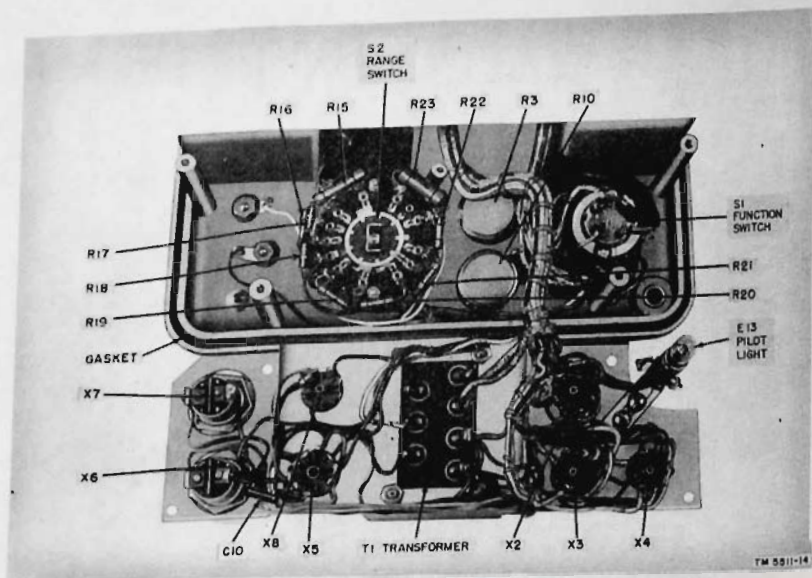

Figure 14. Electronic Multimeter TS-505/U, showing tube and transformer shelf removed.
c. The metal shelf containing the transformer, tubes, tube sockets, pilot light, pilot light socket, and tube shields should be placed in stock if it is in good condition. If the transformer and tube sockets are undamaged, unfasten the shelf (fig. 14) by the two screws and the two studs which hold it in place. Place the complete unit, including cables, in stock for future use. If the metal deck is so badly bent that it cannot be salvaged, remove transformer (T1), pilot light, pilot light socket, and tube sockets and place them in stock for re-use.